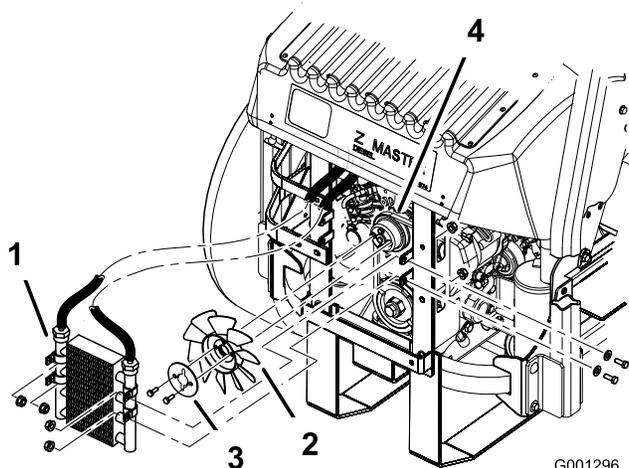

Figure 71
- Remove the 4 bolts holding the oil cooler and position the oil cooler to the side (Figure 71).
- Remove the 2 bolts holding the fan and fan plate to the machine (Figure 71).
- Install the fan and fan plate to the machine with the 2 bolts previously removed (Figure 71).
- Install the oil cooler with the 4 bolts previously removed (Figure 71).